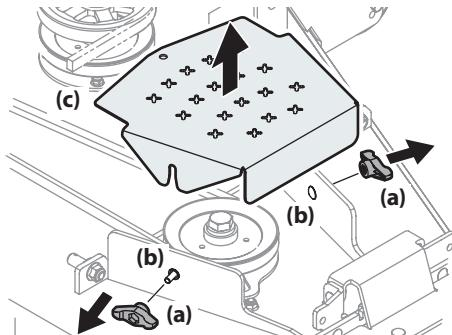

Figure 36
- Remove the wing knobs (a) from the carriage screws (b) securing the belt covers (c) to the deck. Remove the deck covers. See Figure 36.
- Using the wing knobs (a) and carriage screws (b), secure the belt covers (c) to the deck. See Figure 36.